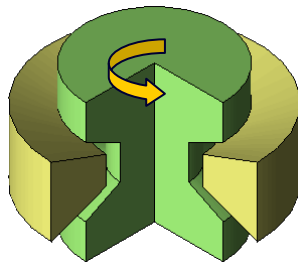
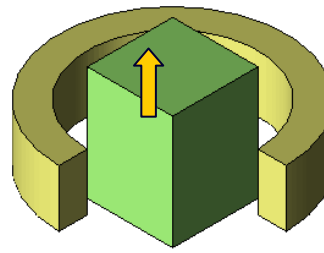

Fig. 1 Rotation Motion Model
Fig. 2 Translational Motion Model
- **Applicable models:** Models with uniform motion direction. For rotation motion, when the geometry rotation axis is axisymmetric (Fig. 1). For translational motion, when the motion direction cross-section can continue in a uniform manner for long enough (Fig. 2.)